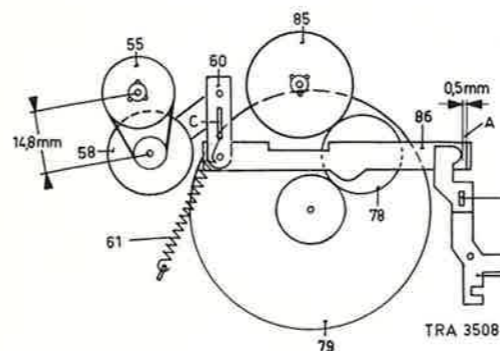

Fig. 7
Adjusting brackets item 96 (Fig. 7)
- The clearance between bracket item 96 and item 86 should be approx. 0.5 mm (see Fig. 7). This can be adjusted by bending bracket item 96 with the aid of a screwdriver (inserted through slotted hole B).
Checking the distance between idler wheel item 68 and the left-hand turntable (see Fig. 7)
- The distance between the centre of idler wheel item 58 and the centre of the left-hand turntable (see Fig. 7) should be 14.8 mm.
This can be adjusted by bending bracket item 60 with the aid of a screwdriver (inserted through slotted hole C, see Fig. 7).
- Check that the cord grooves of idler wheel item 58 and the left-hand turntable item 55 are at the same height.